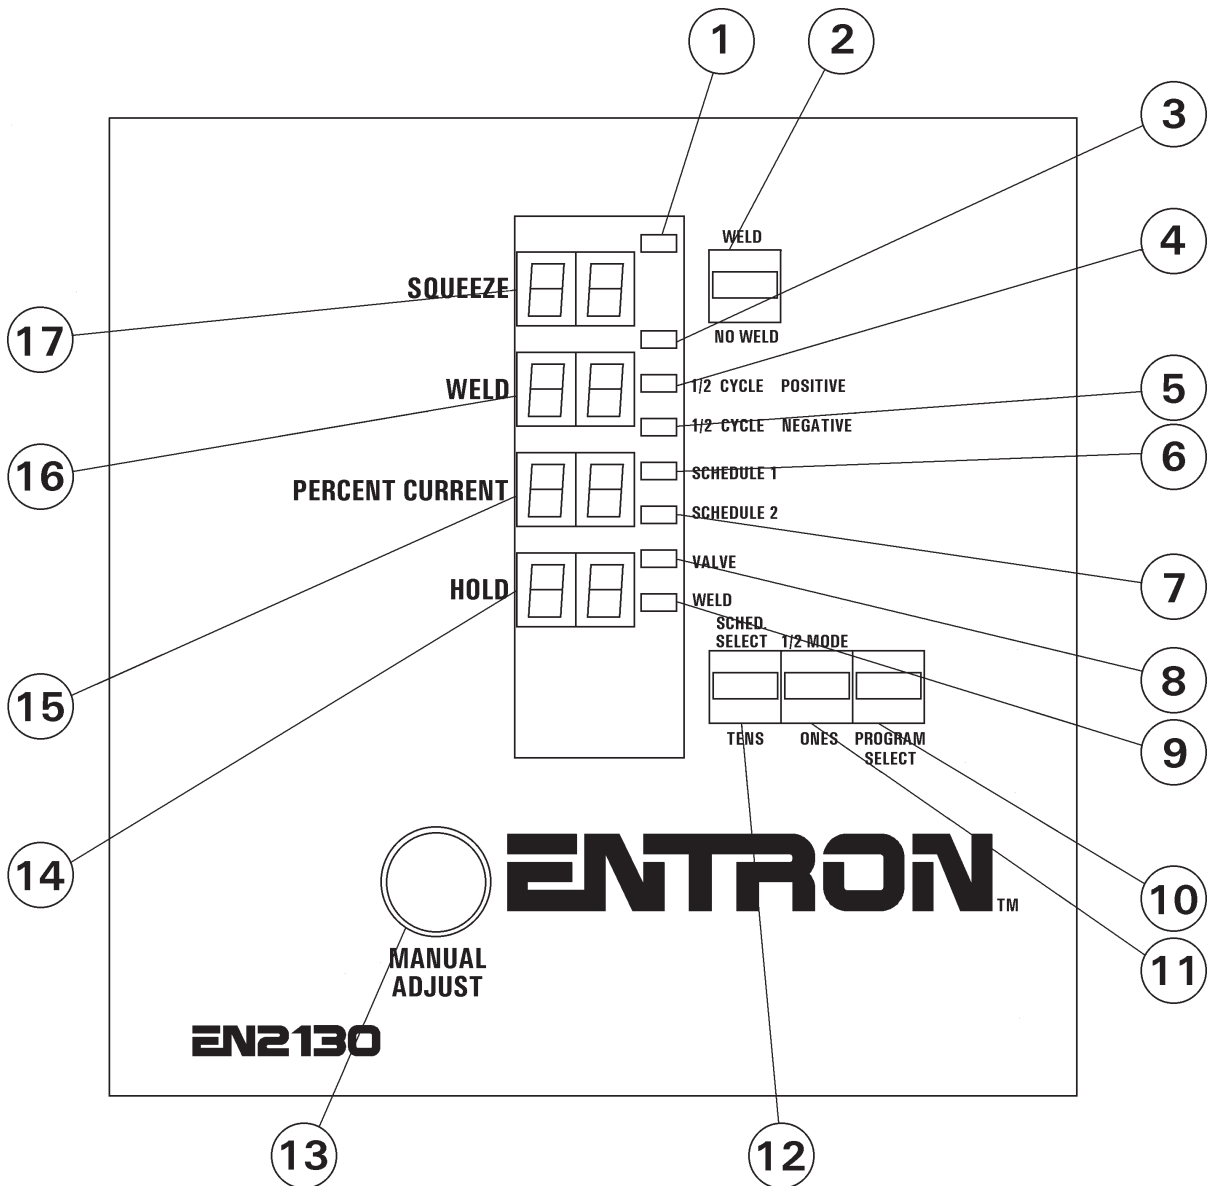

Figure 2-1. Control Panel layout
2.1 CONTROL FUNCTIONS – See Figure 2-1 *Control Panel layout*
2.1 CONTROL FUNCTIONS (cont.) – See Figure 2-1 *Control Panel layout*